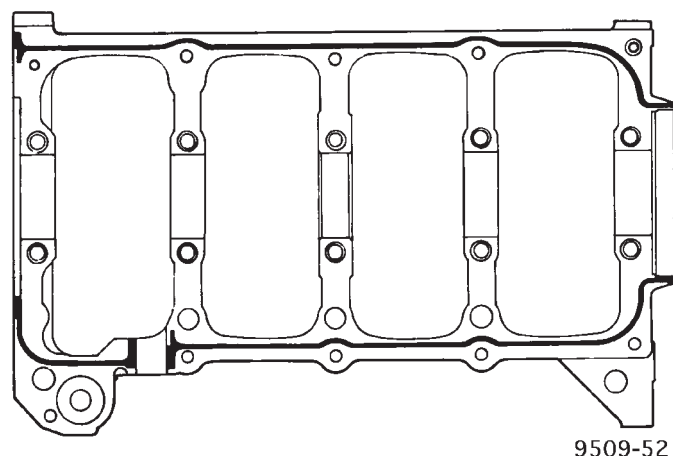

Fig. 66 Main Bearing Caps/Bedplate Sealing
(4) Apply 1.5 to 2.0 mm (0.059 to 0.078 in.) bead of Mopar Torque Cure Gasket Maker to cylinder block as shown in (Fig. 66).
(5) Install lower main bearings into main bearing cap/bedplate. Make certain the bearing tabs are